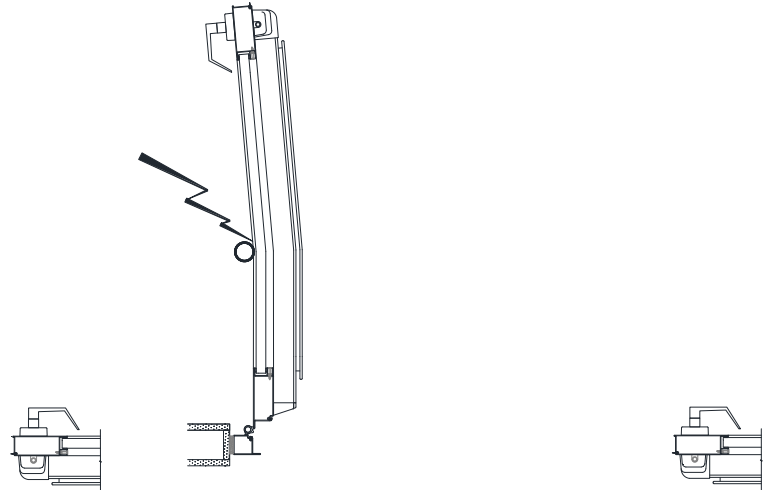

Figure 14 - IMPROPER Door Stop Placement
- Installing the door stop too close to pivot will cause frame damage (Figure 14).